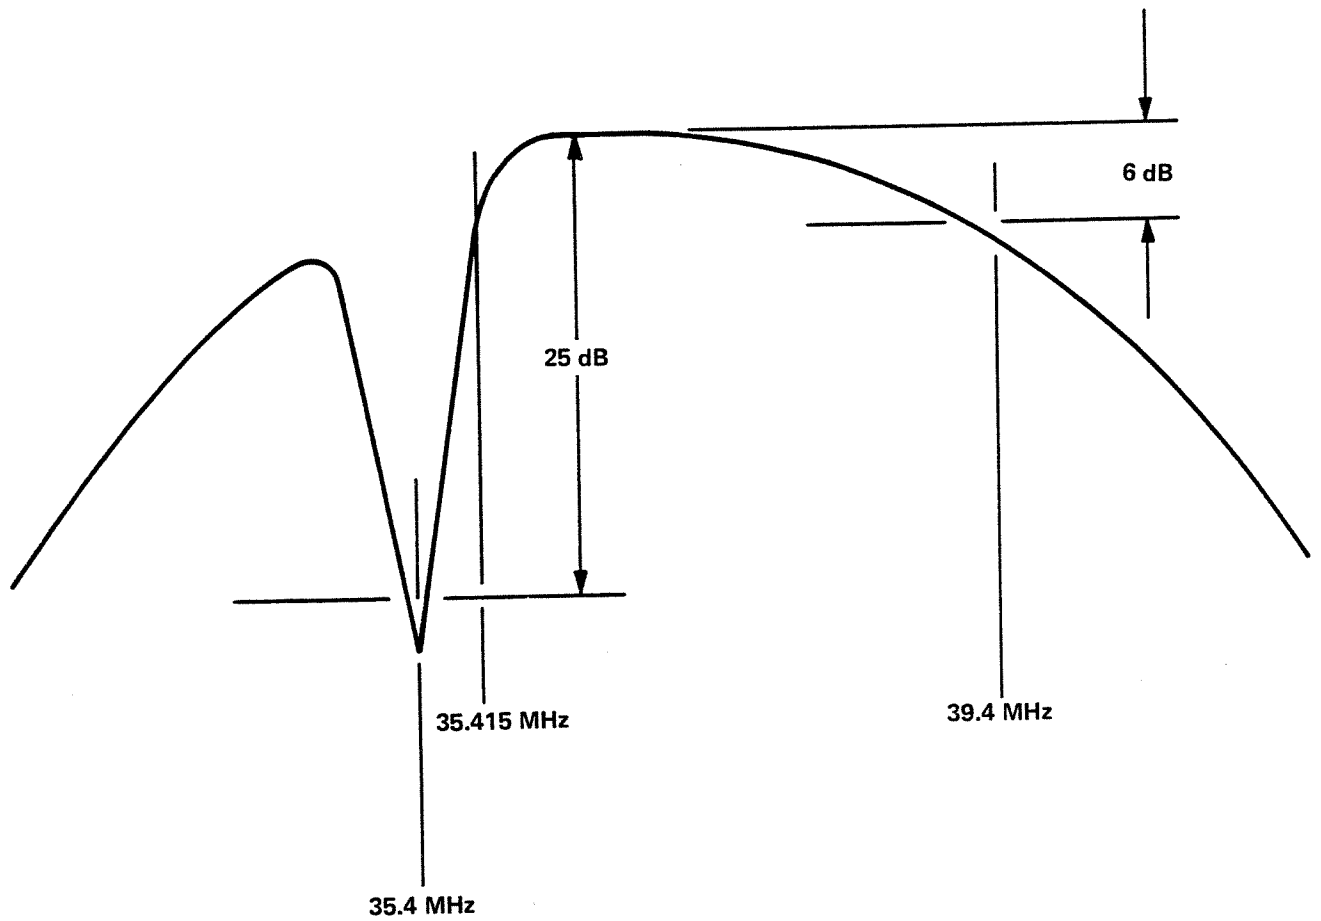

Figure 3-6. Typical Output Characteristics,
- Tune T1, L6, and T2 to obtain an output response similar to that shown in Figure 3-6. Be certain to align the notch to 35.4 MHz.